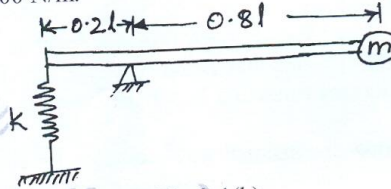

Fig.Q.1(b)
- b. In Fig.Q.1(b) find the natural frequency of the system, if $m = 10\text{kg}$ attached at one end of weightless rod and $K = 1000\text{ N/m}$. (08 Marks)